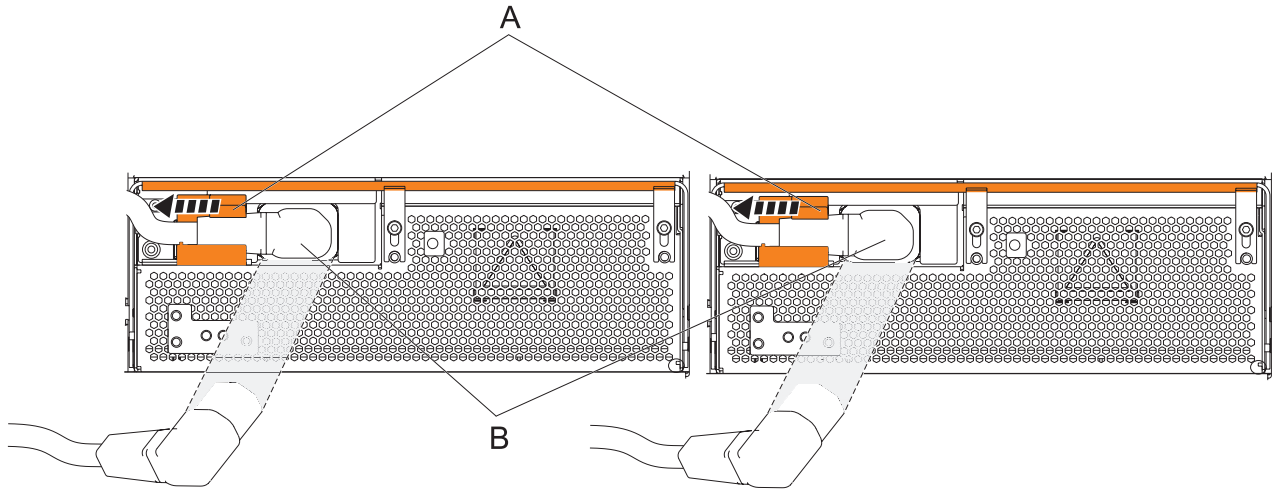

Figure 67. Disconnecting the OCA power cords
- a. Slide the power cord holders **(A)** to the left, located on the front of both the OCAs. See Figure 67 on page 85.